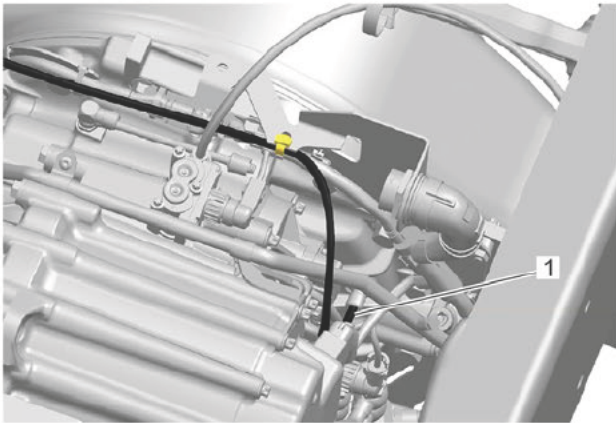

Fig. 2, eAxle Breather Line Connection Point
5. ☐ Secure the new breather lines using the specified cable ties at the locations shown in Fig. 2.